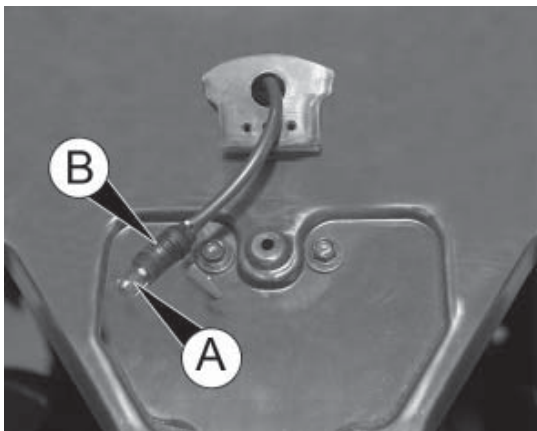

fig. 7
- Disconnect the bulb A fig. 7 from the bulb holder B.
- Replace the blown bulb and connect the new bulb to the bulb holder B fig. 7, ensuring that it is correctly inserted